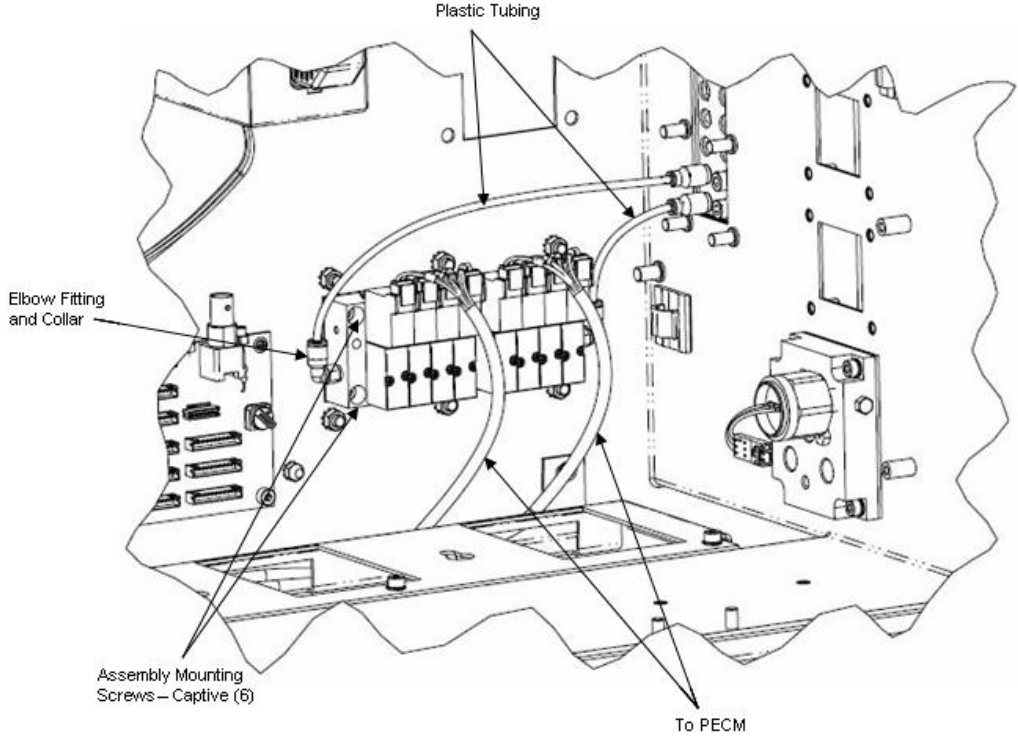

Figure 4-19: New SVCM Installed
1.	<p>Remove the tubing from each right angled elbow fitting. These fittings are located on the left and right side of SSR mounting assembly. Refer to Figures 4-19 and 4-20.</p> <p>(Old SVCM) To remove hose from fitting, pushup on fitting collar then pull tubing from fitting. After tubing is removed, collar will return to its original position.</p> <p>(New SVCM) To remove hose from fitting, pull tubing from fitting while pushing in on orange fitting collar.</p> <p>Note: For ease in removing tubing from collar, the right angled fittings can be rotated for easier access to collar.</p>